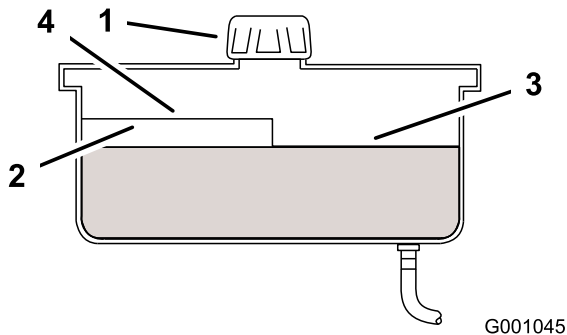

Figure 56
2. Clean the area around filler neck of hydraulic tank (Figure 56).
3. Remove the cap from the filler neck. Look inside to check if there is fluid in the reservoir (Figure 56).
Note: The fluid level should be to the top of the hot level of the baffle, when the fluid is hot (Figure 56).